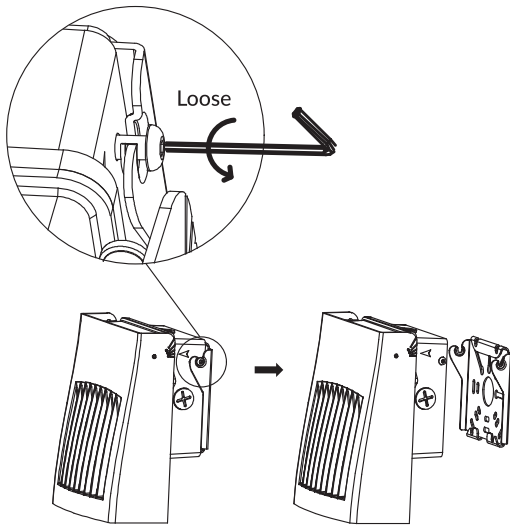

Figure 1
- Use a 3/32 hexagon wrench to detach the mounting plate from the fixture by unscrewing halfway the 2 side retaining screws, until the mounting plate is loose. (Figure 1)